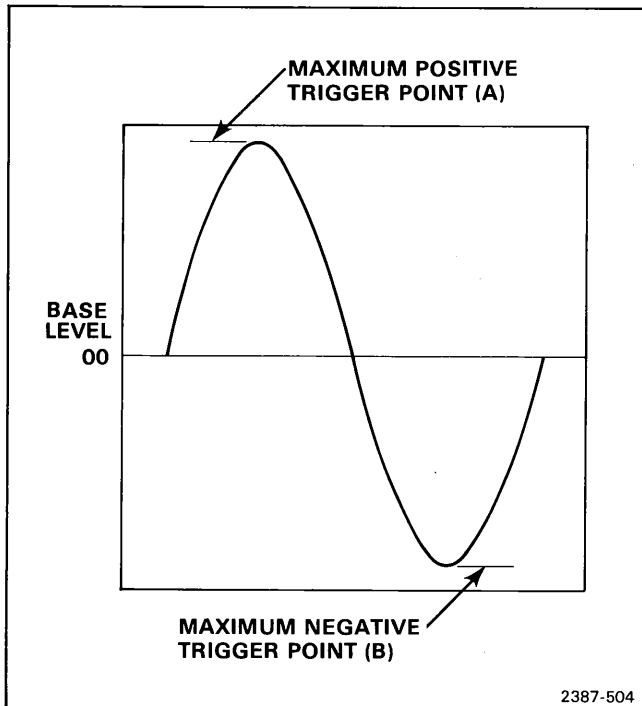

Fig. 5-4. XYZ display showing maximum positive and negative trigger points.
- b. **CHECK**—the 7704A for a triggered XY display (7612D L TRIGGERED light on) that varies, while changing the 7612D TRIGGER LEVEL and pressing the ARM A button, from a base level (00) to a maximum positive level, then back to the base level and on to a maximum negative level. See Figure 5-4.